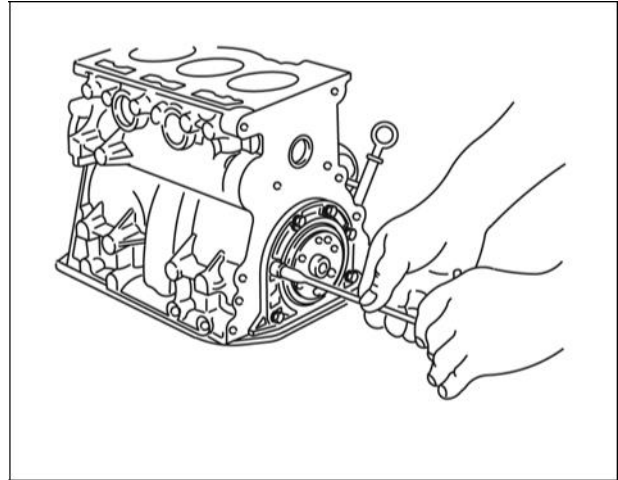

Figure 3
1. Remove rear seal retainer and discard gasket (Figure 3).